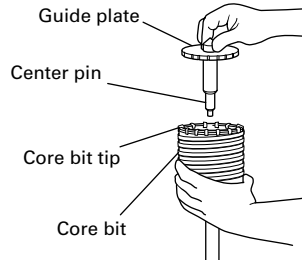

Fig. 19
- (3) Insert the center pin into the guide plate until it stops.
(4) Engage the guide plate with the core bit, and turn the guide plate to the left or the right so that it does not fall even if it faces downward (Fig. 19).